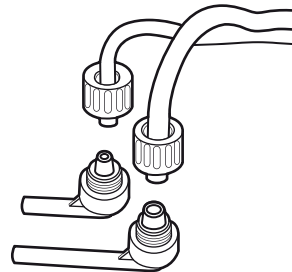

Figure 3.15 – Placing Fitting Nuts Over Tube Ends
4. The inlet tube is larger in diameter than the outlet tube. This is to help ensure the correct tube is installed to the correct connector. Place the inlet and outlet fitting nuts over the ends of each tube. Make sure the threaded end of the nuts are facing the tube ends (see Figure 3.15).